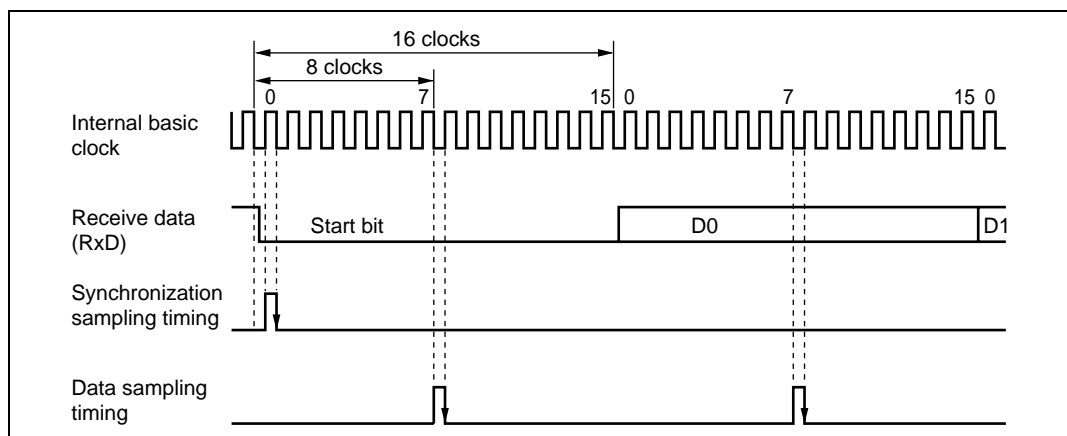

Figure 10.3 Receive Data Sampling Timing in Asynchronous Mode
In asynchronous mode, the SCI operates on a basic clock with a frequency of 16 times the transfer rate. In reception, the SCI samples the falling edge of the start bit using the basic clock, and performs internal synchronization. Receive data is latched internally at the rising edge of the 8th pulse of the basic clock as shown in figure 10.3. Thus, the reception margin in asynchronous mode is given by formula (1) below.